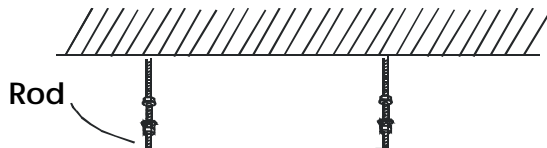
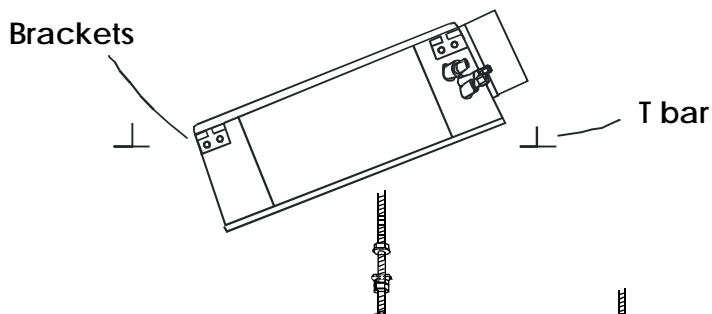
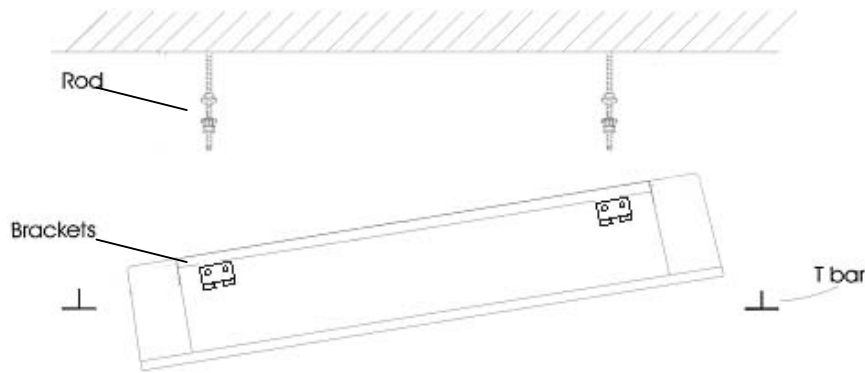
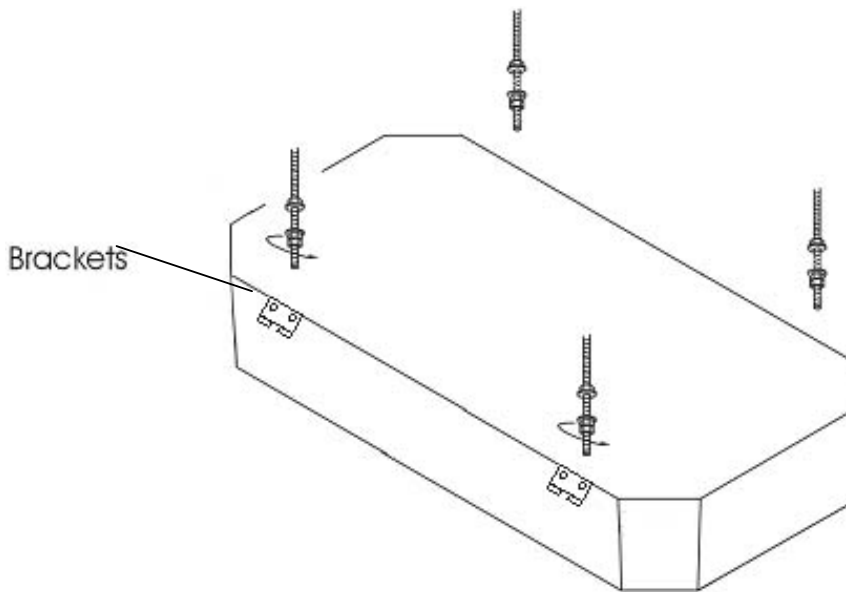

Fig.10
Fig.11
Fig. 13
Fig. 14
9. Incline unit (Fig.10, Fig.11, Fig.13, Fig.14) and insert it into the false ceiling. Insert the rods into the bracket slot.